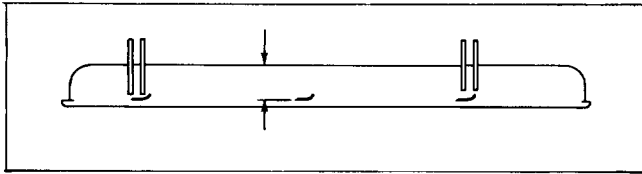

Figure 14
1. Rotate blade until the ends face forward and backward (Fig. 14). Measure from inside of cutting unit to cutting edge at front of blade (Fig. 14), and remember this dimension.